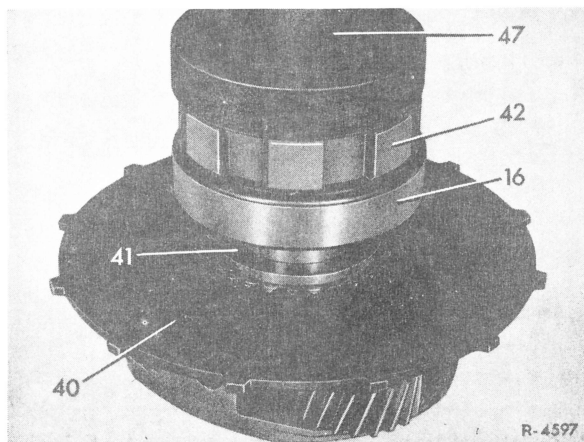

Fig. 14
18 Mount sun gear (40) and thrust washer (41), with offset end of thrust washer facing sun gear (Fig. 14).
19 Press-on ball bearing (16) and parking lock gear (42) with assembly mandrel (Fig. 14).